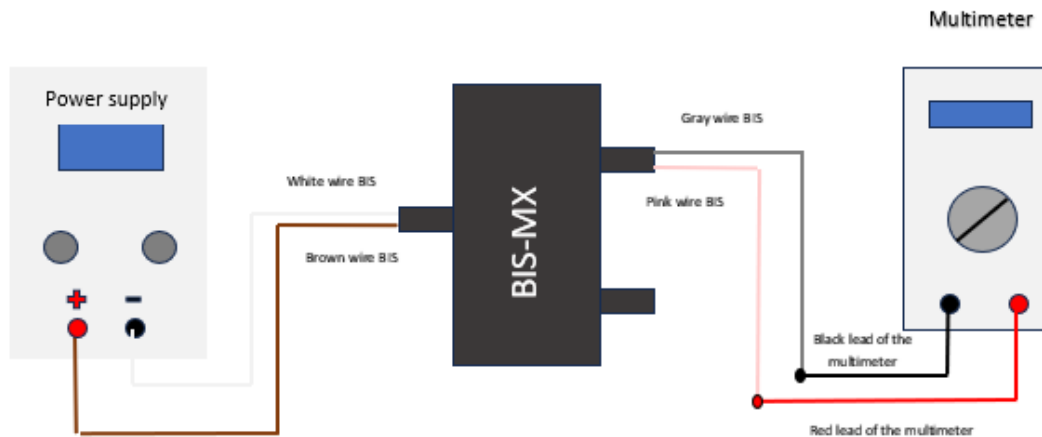

Fig. 8 Connection Diagram
3. Assemble the connection circuit according to “Fig. 8 Connection Diagram”.